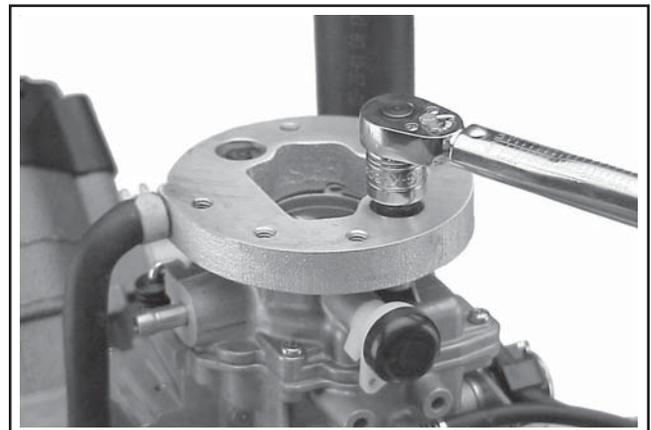

Figure 11-82. Installing Carburetor Breather Adapter.
5. Connect the upper end of the breather hose to the fitting on the rear of the adapter. See Figure 11-82.